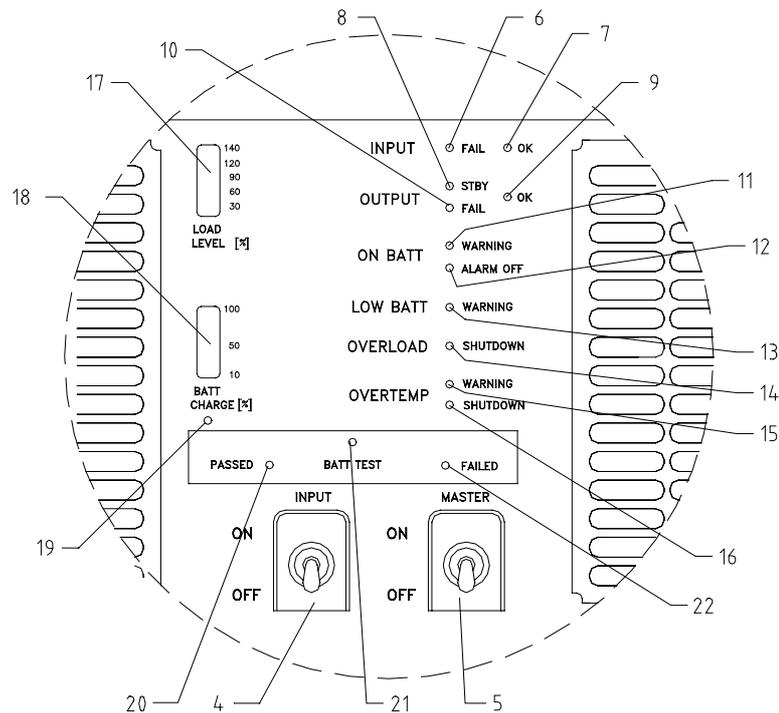

Figure 4 - Front Panel: Indicators and Switches
2. Visual Indicators and Switches (for detailed view see Figure 4).
4.2 Front Panel: Indicators and Switches (See Figure 4)